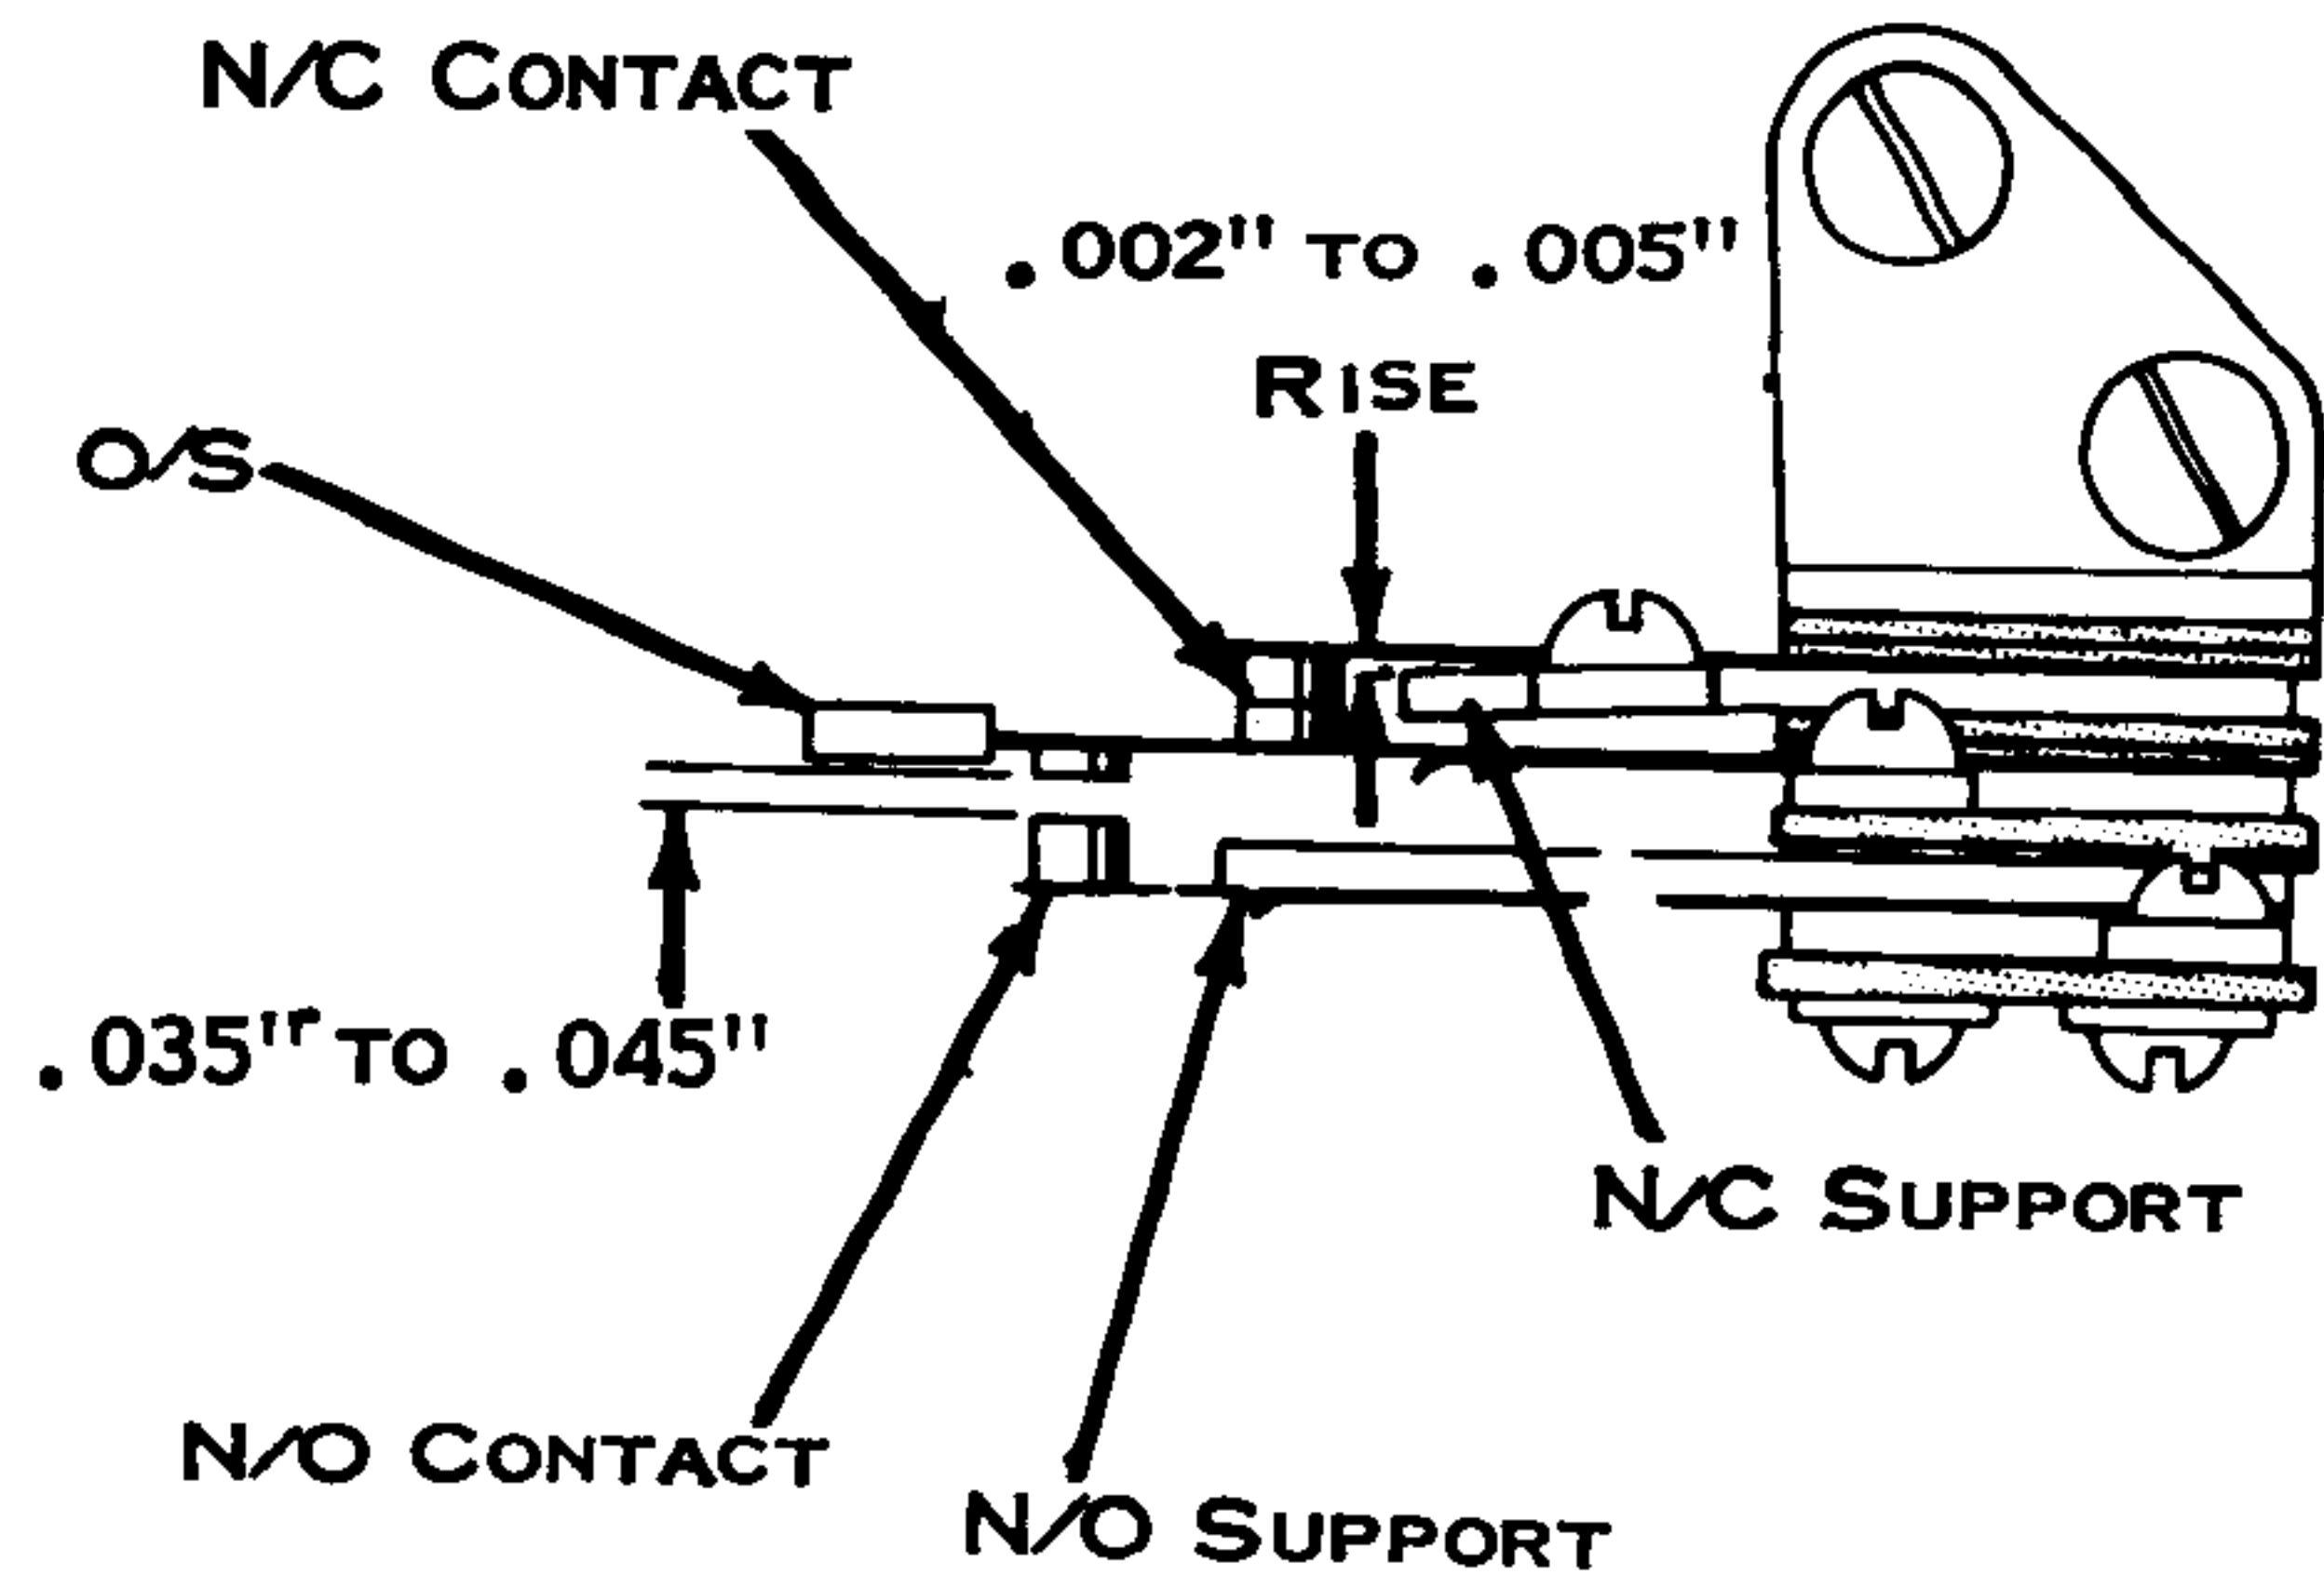

Figure 185A. Carrier Return Interlock Inactive
- Form the N/C support so that the O/S lifts the N/C contact .002" to .005" (Fig. 185A).